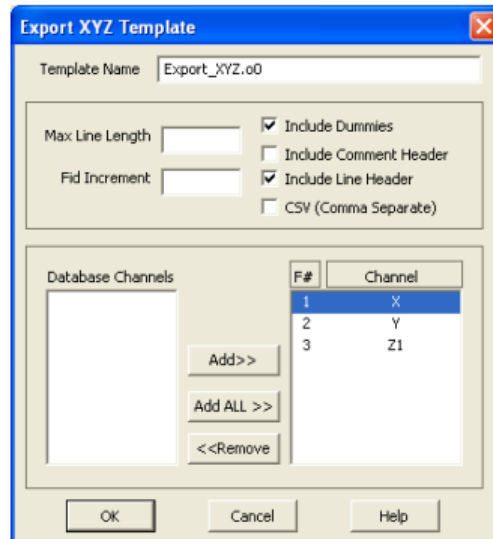

Figure 1.103 – Export XYZ file template
3. Specify the XYZ data file name (**Export XYZ**), and click the [**Template**] button. The *Export XYZ Template* wizard is displayed, fig. 1.103.